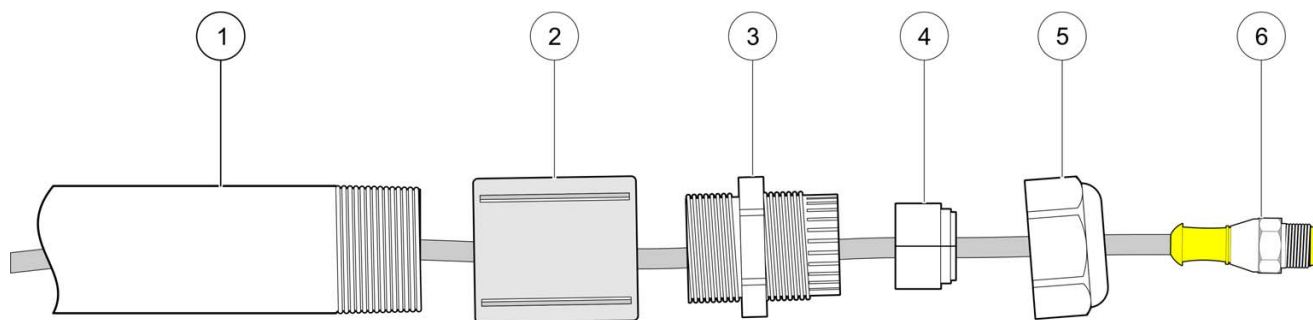

Figure 2 Assembling the Strain Relief and Coupling
1. Remove the cable strain relief cap and split rubber grommet. See Figure 2.
5. Place the split rubber sealing grommet over the sensor cable. Slide the grommet along the sensor cable and into the strain relief body. Route the sensor cable through the top of the strain relief. Slide the top of the strain relief along the sensor cable and loosely screw it onto the strain relief body. See Figure 2.